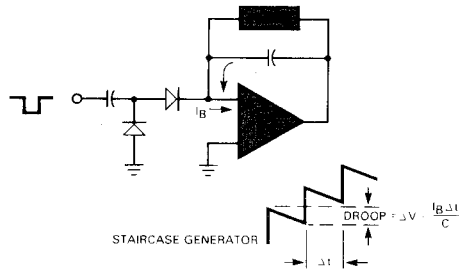

Fig. 7. Staircase Generator
*Equation 6* also applies in circuits where the voltage held is across a capacitor in a feedback loop, (*Figure 7*).